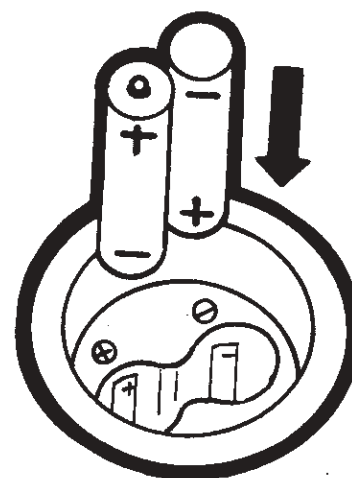

Figure 2
2. Make sure that the power switch is in the OFF position. Insert two batteries with the polarity shown in the battery compartment. (Figure 2)